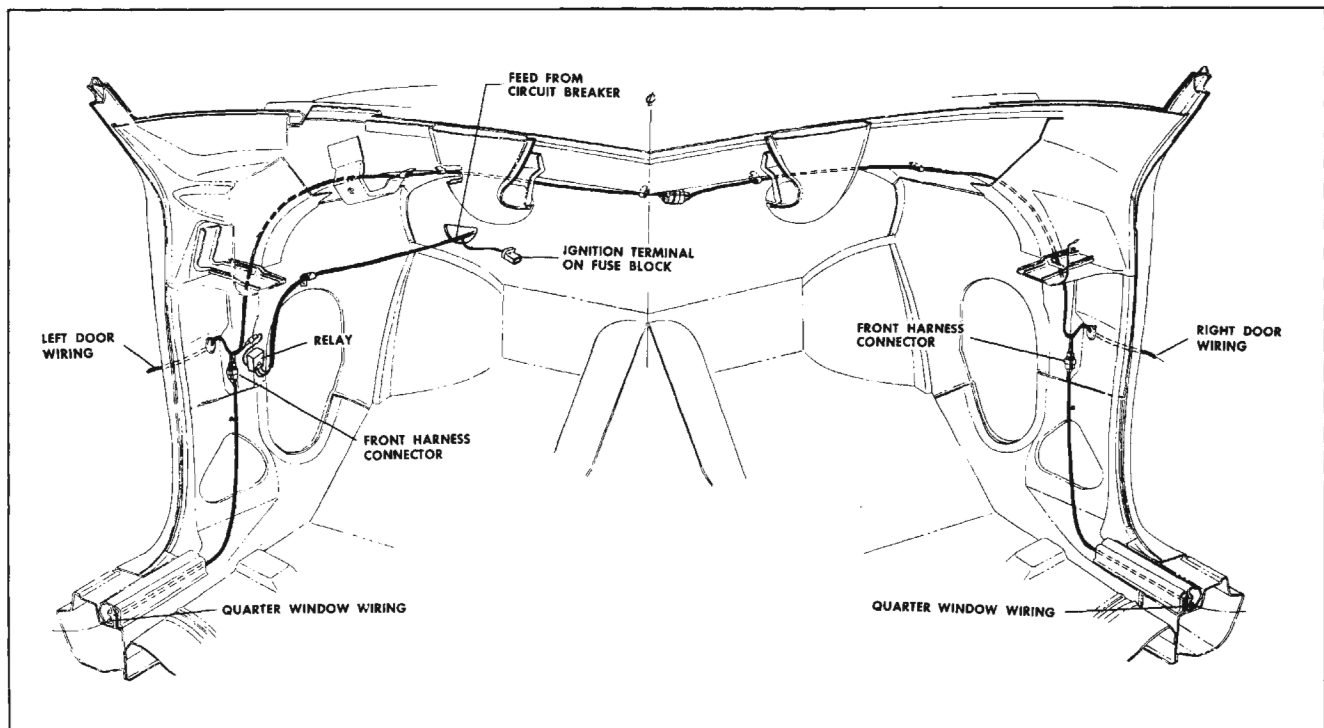

Fig. 16-277 Power Window Wiring
The two (2) piece harness is installed beneath the instrument panel and completes the circuit from the right door to the left door windows and has a multiple connector located in the center. The front harness also includes the wiring for the rear quarter windows. (Fig. 16-277)